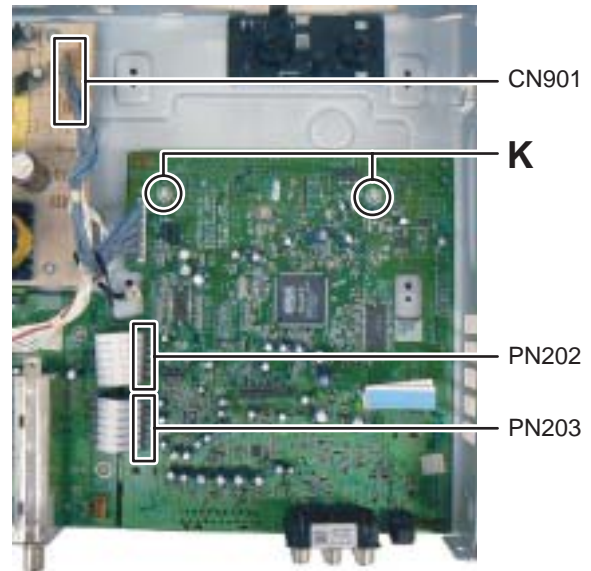

Fig.14
- (2) Disconnect the connector wire from Main board connected to connector **CN901** of the SMPS board. (See Fig.14)
- (3) Disconnect the card wires from Amp board connected to connector **PN202** and **PN203** of the Main board. (See Fig.14)
- (4) Remove the two screws **K** attaching the Main board. (See Fig.14)